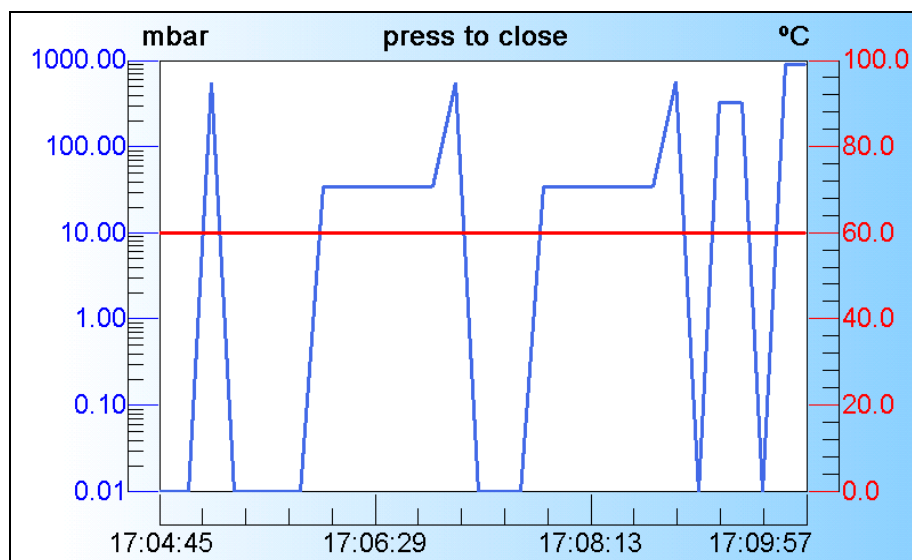

Figure 2-41
**Note:** When touching this button , the cycle graph will be shown (Fig. 2.41).